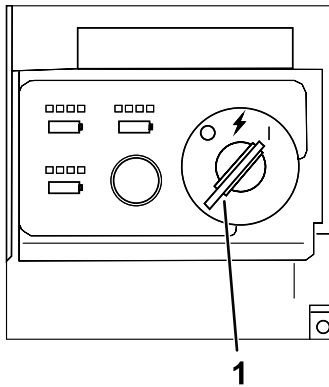

Figure 12
4. Turn the key to the ON position to turn on the machine (Figure 12).